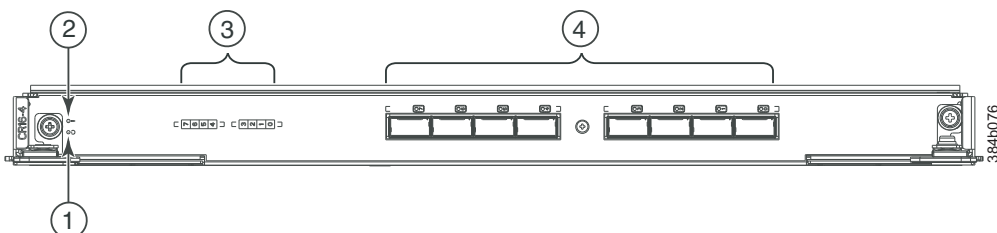

Figure 30. Core switch blade (CR16-4)
1. Check the LED indicators on the core switch blade (Figure 30). The LED patterns may temporarily change during POST and other diagnostic tests; for information about how to interpret the LED patterns, see Table 11.
Figure 30 shows the CR16-4 core switch blade and its components.